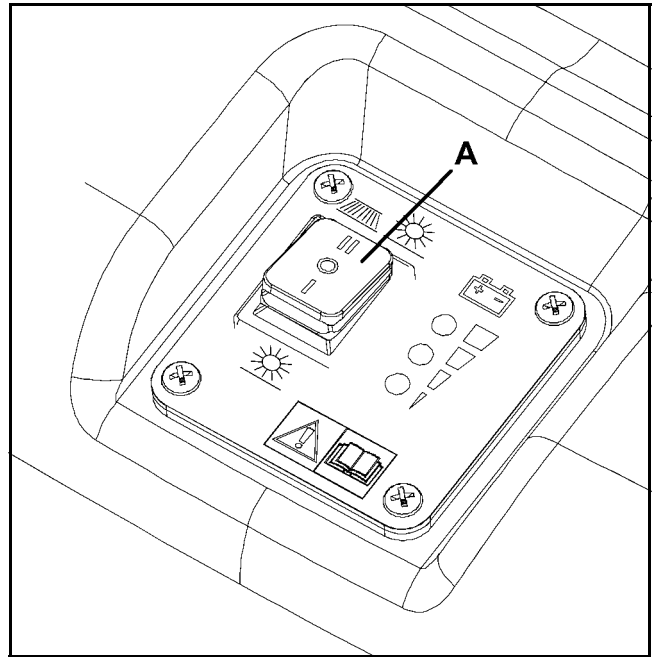
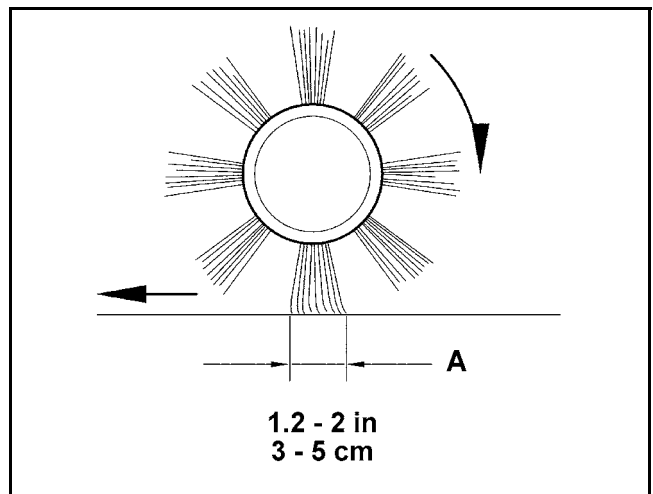

Figure 9
Figure 10
- Turn off the main broom by pressing the switch (A, Fig. 9), then move the machine.
- Check that the main broom print (A, Fig. 10), along its length, is 1.2 - 2 in (3 - 5 cm) wide.
- If the print (A) is not within specifications, adjust the broom height as shown in step 2.
2. Turn the main switch (A, Fig. 9) to "0".